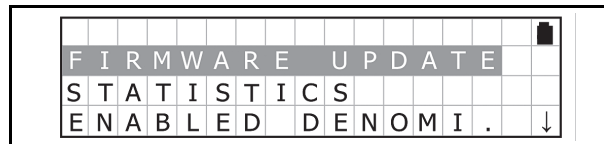

Figure 11 Function Selection Screen 1
- Select “FIRMWARE UPDATE” Function on the Function Selection Screen shown in Figure 11, and press the OK Key  to begin the Firmware Erase process.